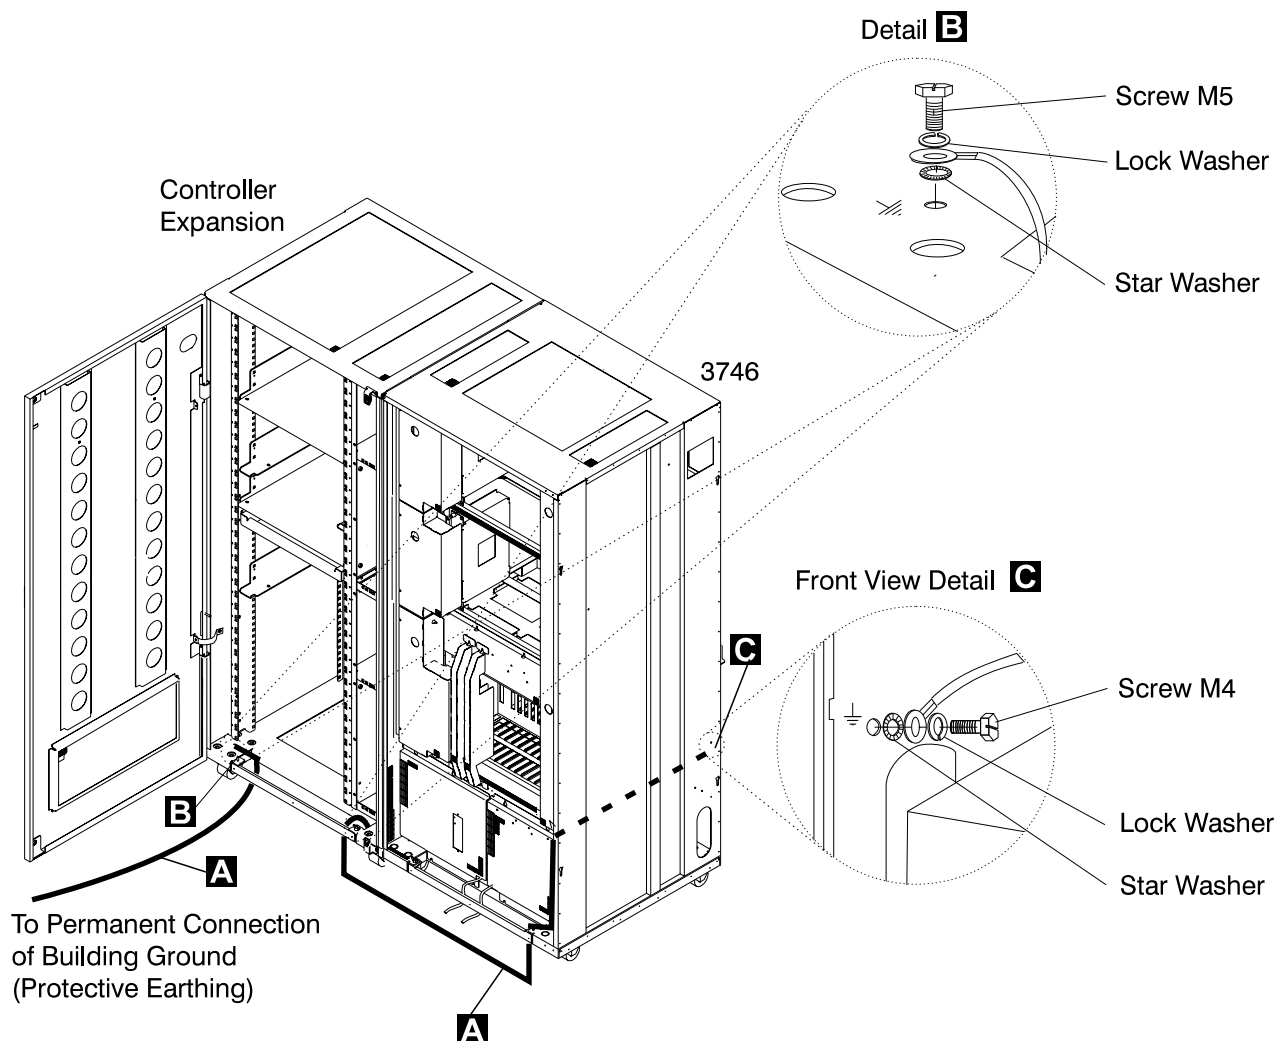
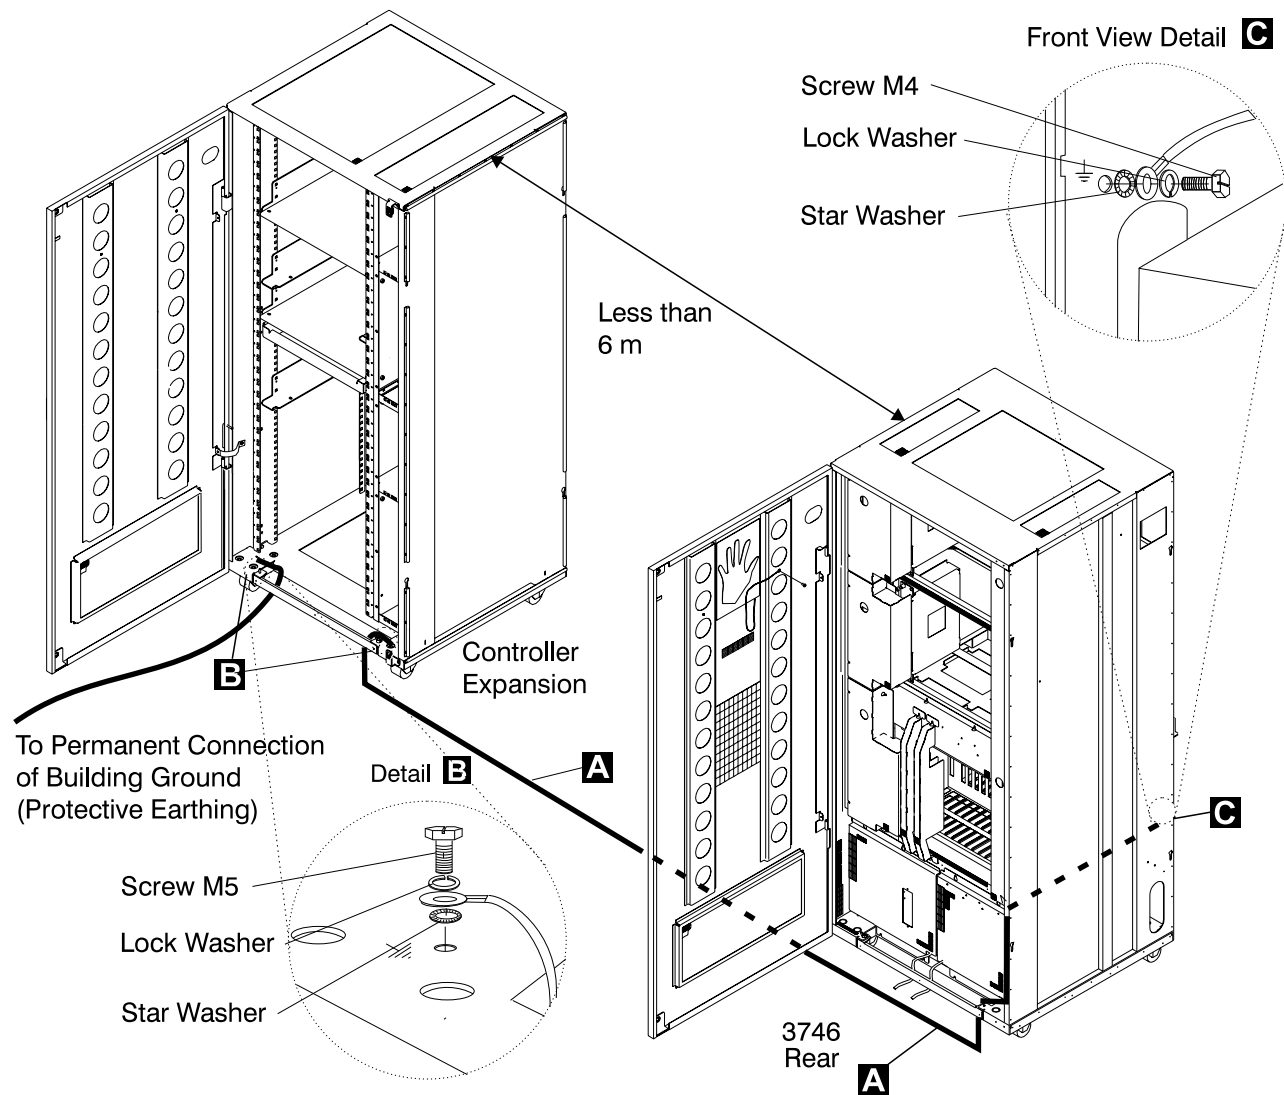
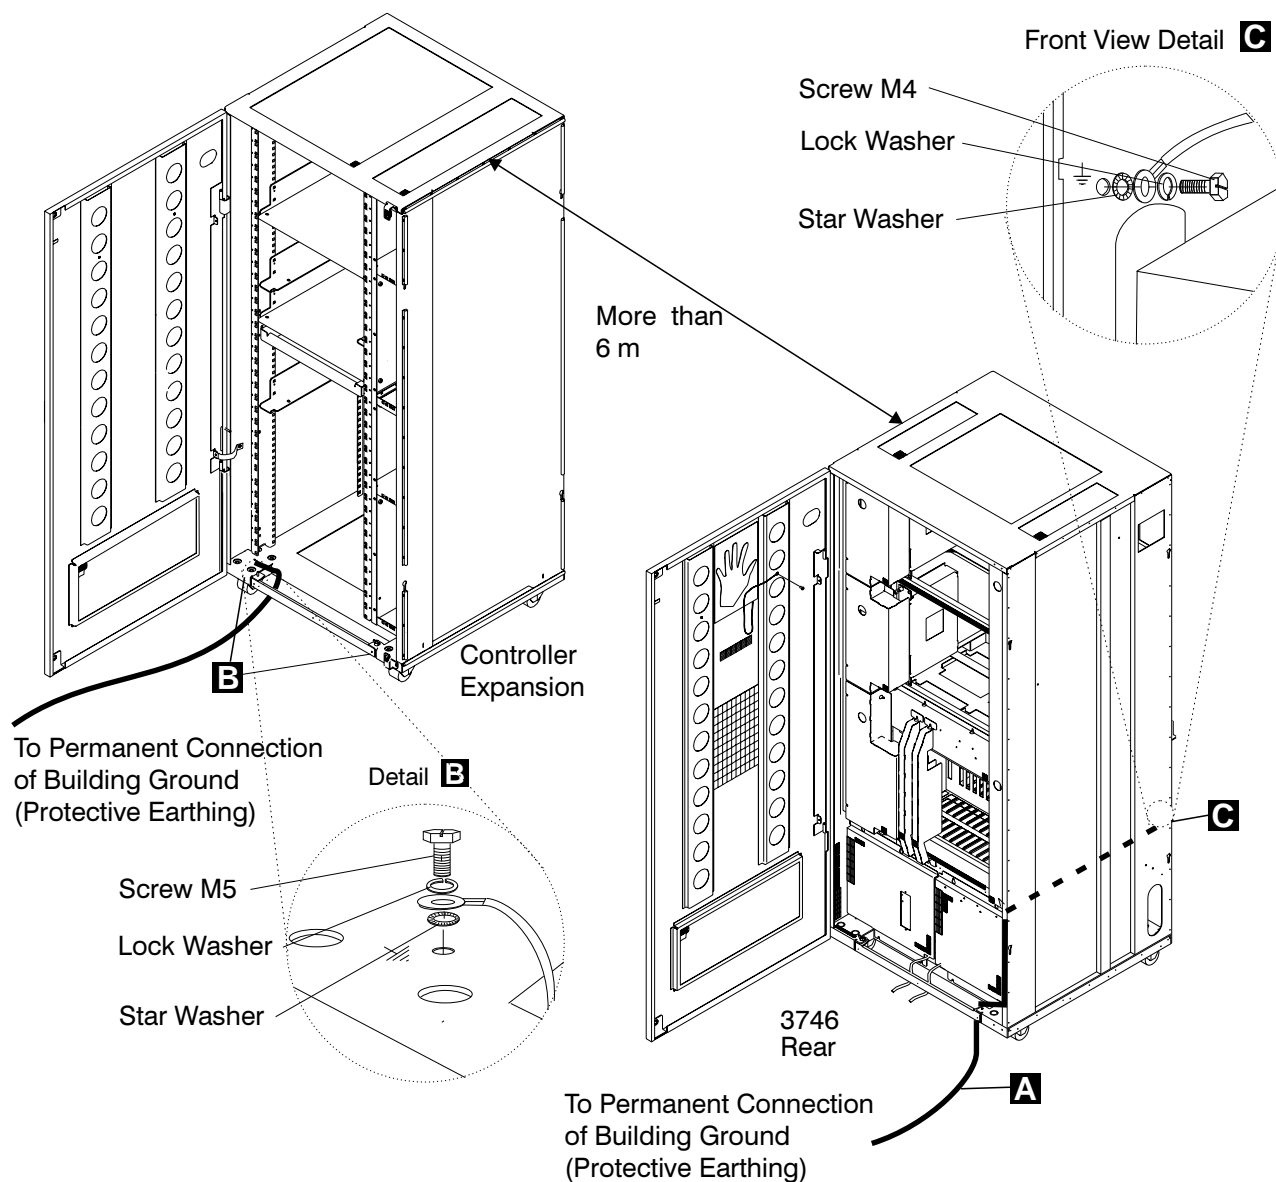

Figure 0-2. Ground Wire Connection Between the Controller Expansion and Attached 3746-950 Frame
Figure 0-3. Ground Wire Connection for the 3746-950 and Controller Expansion Located at Less than Six Meters
Figure 0-4. Ground Wire Connection Between the Controller Expansion and 3745-950 at more than Six Meters
Do not remove the power cords and ground wire **A** on the 3746-950 and controller expansion in order to maintain the ground protection (see Figure 0-2 on page xxi, Figure 0-3 on page xxii, or Figure 0-4 on page xxiii).
- Check the presence of ground wire **A** according to your configuration (see Figure 0-2 on page xxi, Figure 0-3 on page xxii, or Figure 0-4 on page xxiii).